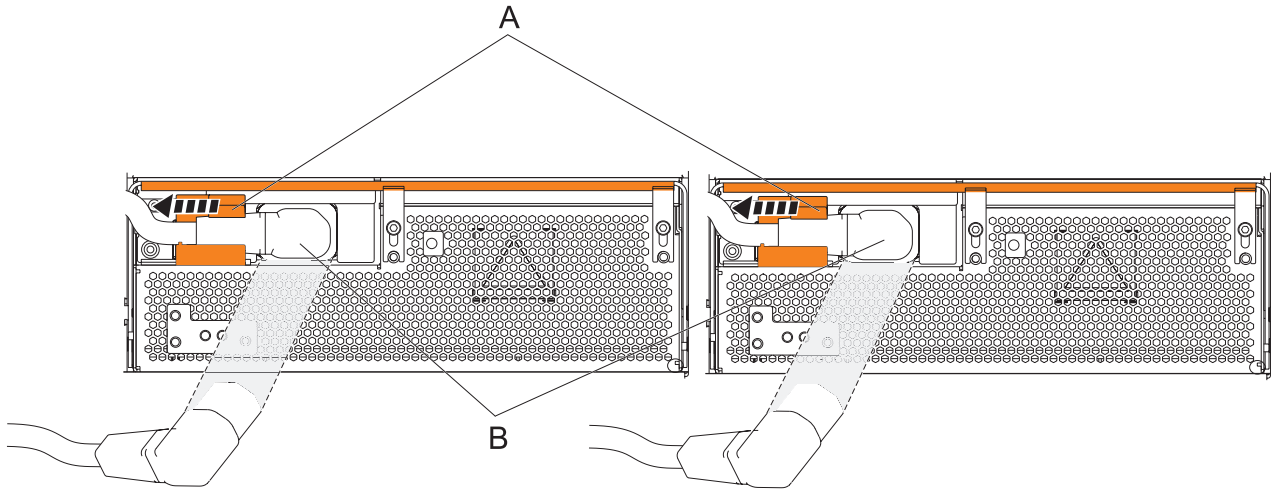

Figure 95. Disconnecting the OCA power cords
- a. Slide the power cord holders **(A)** to the left, located on the front of both the OCAs. See Figure 95 on page 124.